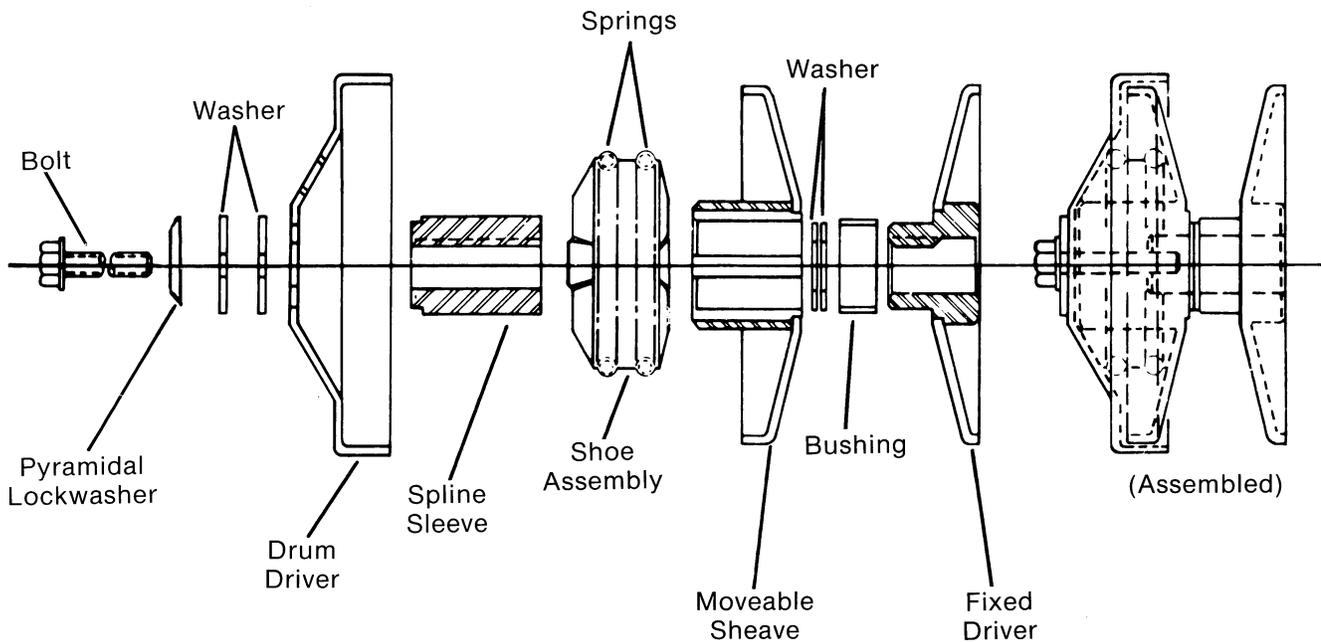

FIG. 14
- D. Disassemble and check condition of all internal parts (Fig. 14) (springs, shoe assembly wear pads, bronze bushing and pulley halves) and replace any worn or broken pieces.
Reassemble torque converter by following parts sequence shown in (Fig. 14) and mount assembly back onto crankshaft. Replace drive belt and belt guard.